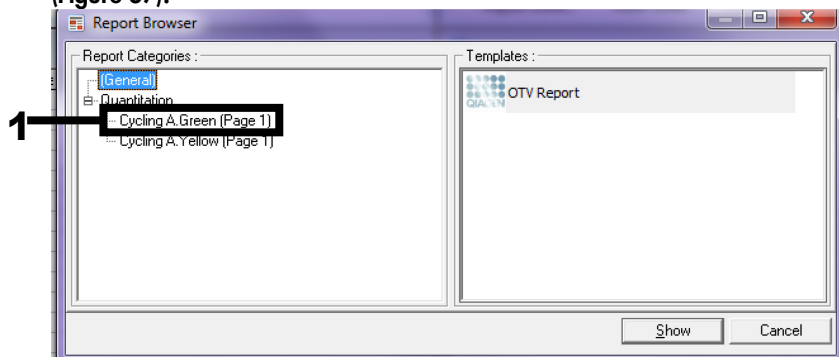

Figure 37. Report browser (1 = “Cycling A. Green (Page 1)” button).
9. In the report browser, click “Cycling A Green (page 1)” under “Report Categories” (Figure 37).